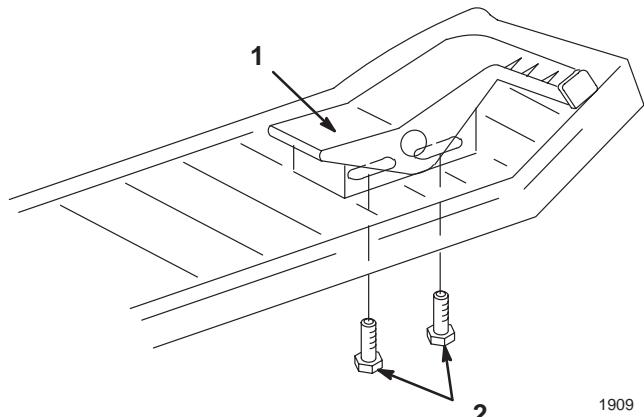

Figure 5
- Loosen the screws below the right footrest. Slide the pedal forward for faster reverse speed or backward for faster forward speed (Fig. 5).